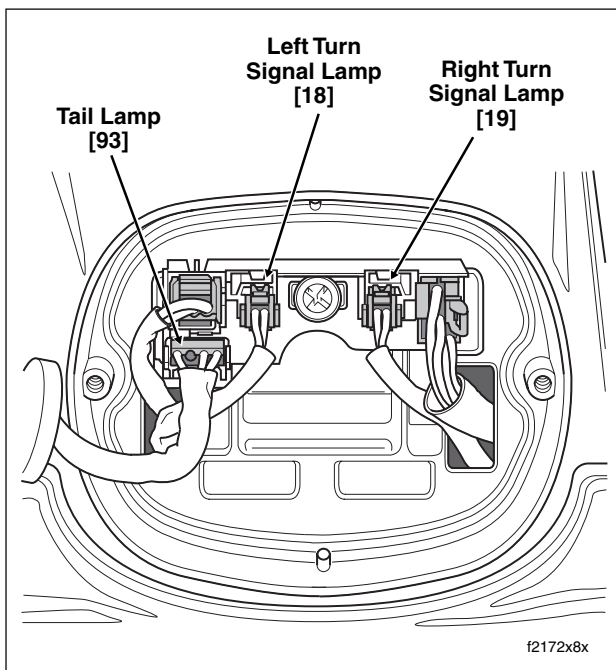

Figure 8-58. Release Tail Lamp Socket
3. Depress button at bottom of 4-place Multilock socket to release tail lamp assembly from pin housing. See Figure 8-58.
9. To install tail lamp assembly, orient 4-place Multilock socket so that the release button is at the bottom and insert into pin housing until it “clicks.” To avoid stressing wires, verify that tail lamp conduit is positioned on the outboard side of the rear fender tip lamp and left turn signal lamp conduit as shownn Figure 8-58.